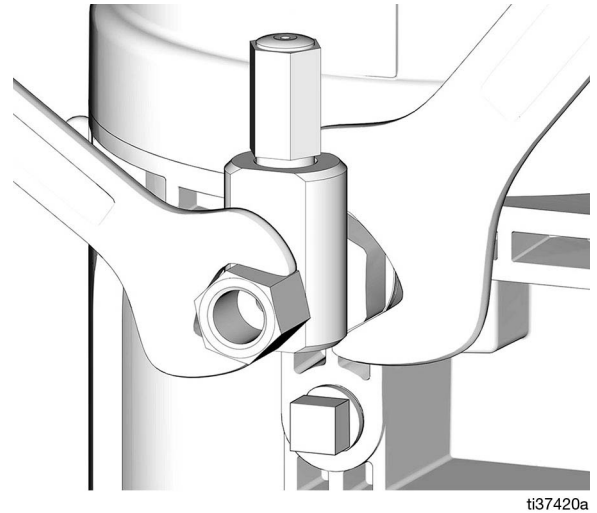

FIG. 23
- Loosen the pump element fitting (FIG. 23).